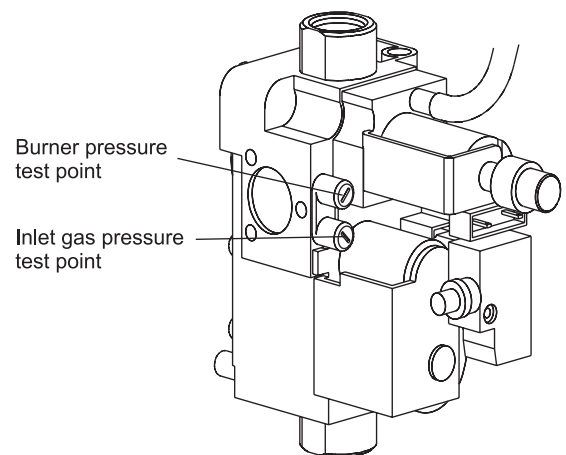

Fig. 23
2. Loosen the gas inlet pressure test point screw on the gas valve (see Fig. 23). Ensure the gas supply is on and open the boiler service cock to purge in accordance with BS 6891 or IGE/UP/1B.
5.5 CHECK THE BURNER PRESSURES - Fig. 23